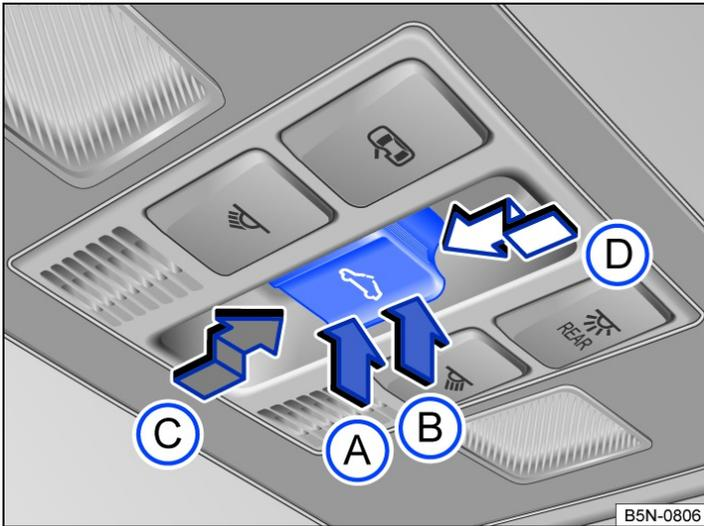

Fig. 1 In the roof: button for the glass roof.
- *Tilting the glass roof:* push the button → Fig. 1 **B** to the first position. One-touch function: push button **B** to the second position.